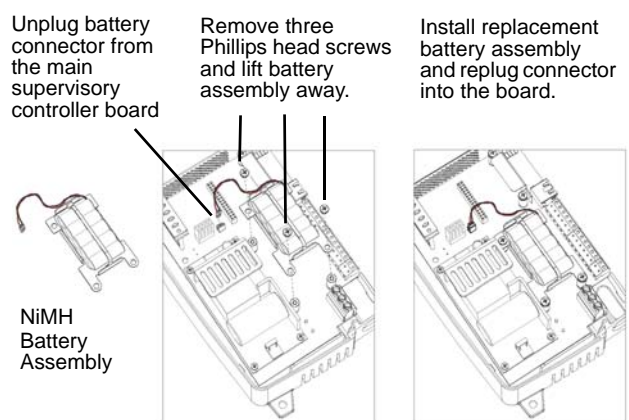

Figure 23: NiMH Battery Replacement
The replacement NiMH battery is a custom battery pack assembly mounted on a bracket with an attached cable and connector plug (Figure 23). To replace the battery, remove power to the unit and remove both covers.
3. Remove both covers. See Removing and Replacing the Covers on page 5. At this point you have access to the NiMH battery assembly (Figure 23).
4. Unplug the NiMH battery from the main board connector (see Figure 23).